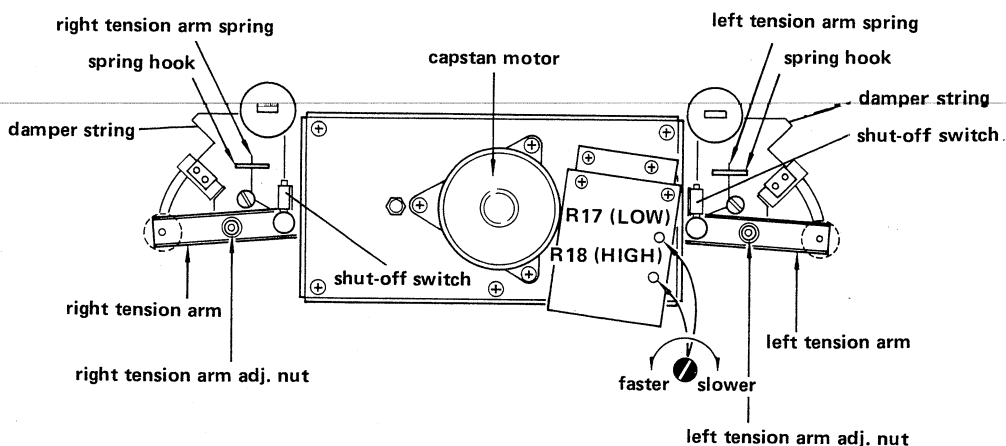

Fig. 6-8 Tension arm height, tension arm force, damper function, and tape speed
3. Stop left (right) guide roller's rotation by hand. Adjust by turning the left (right) tension arm adjusting nut (refer Fig. 6-8) so that the tape moves in the center of the guide roller.
3. Play the tape. Adjust R18 (see Fig. 6-8) for a reading of 3,000 Hz ±5 Hz.